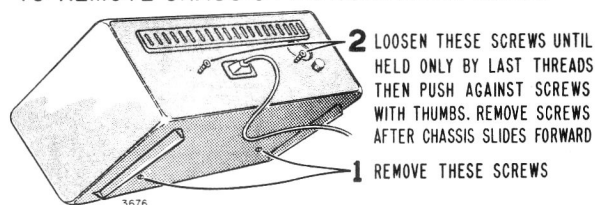

Figure 2. Rear View of Cabinet Showing Chassis Mounting Screws.
1. Tilt cabinet forward and remove two screws located on the bottom front of cabinet. See figure 2.